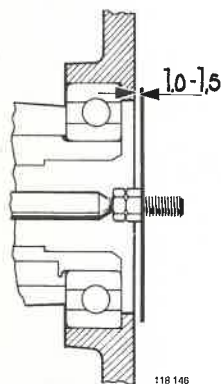

Fig. 92-22. Adjusting the clearance
- 4 Screw the thrust washer on the rod. The washer should be placed so that there is a clearance of 1–1.5 mm (0.04–0.06”) between the washer and the gear housing cover. See Fig. 92-22.